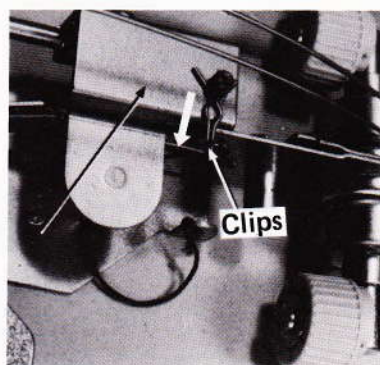

Fig. 10
- Remove the clips and take the Tension Assembly out of the cover (fig. 10).
- Figures 10, 20, 30, 40 ... up to 100, on either side of the figure 0 indicate the number of needles.